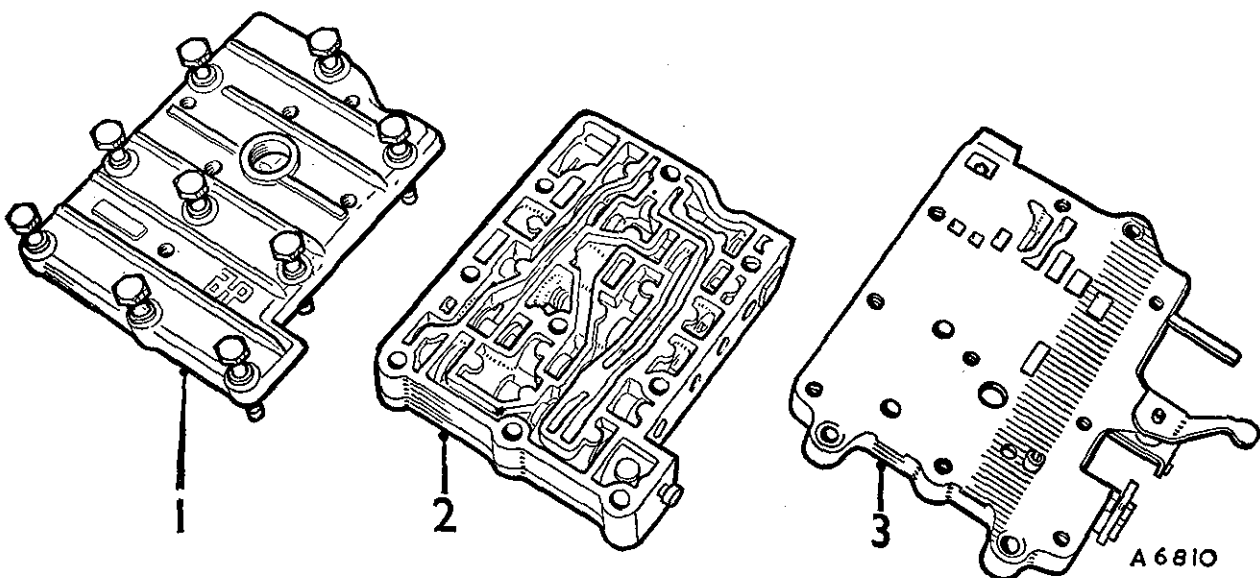

Fig. Fa.25
- (7) Remove the bell-crank lever clevis pin. Unscrew and pull out the selector rod sufficiently to remove the valve block.
- (8) Loosen the servo unit securing bolts.
- (9) Remove the valve block assembly as individual components, i.e. the lid, valve chest, and finally (if necessary) the pipe chest (Fig. Fa.25).
- (10) Carry out items (1), (2), and (4).
- (11) Disconnect the engine oil feed pipe and remove the adaptor. Withdraw the valve block connecting pipe through the adaptor hole.
- (12) Remove the transmission front cover and manoeuvre the cover upwards and out through the grille aperture.
- (13) Remove the valve block lid and the valve chest.
- (14) Remove the lid and valve chest from the pipe chest (if removed as a unit), see Fig. Fa.25.
- (15) Remove the selector and governor valves.
- (16) Remove the 'C' clips and the plugs. Remove the regulator valve, spring, and reverse booster piston assembly.
- (17) Remove the 'C' clip and the plug. Remove the tow-start valve, spring, and spring retainer.
- (18) Remove the 'C' clips and the plugs. Remove the second and fourth gear valves, spring, and booster piston.
- (19) Remove the 'C' clip and tap out the plug. Remove the third gear valve booster piston, spring, spring retainer, and the plastic plug.